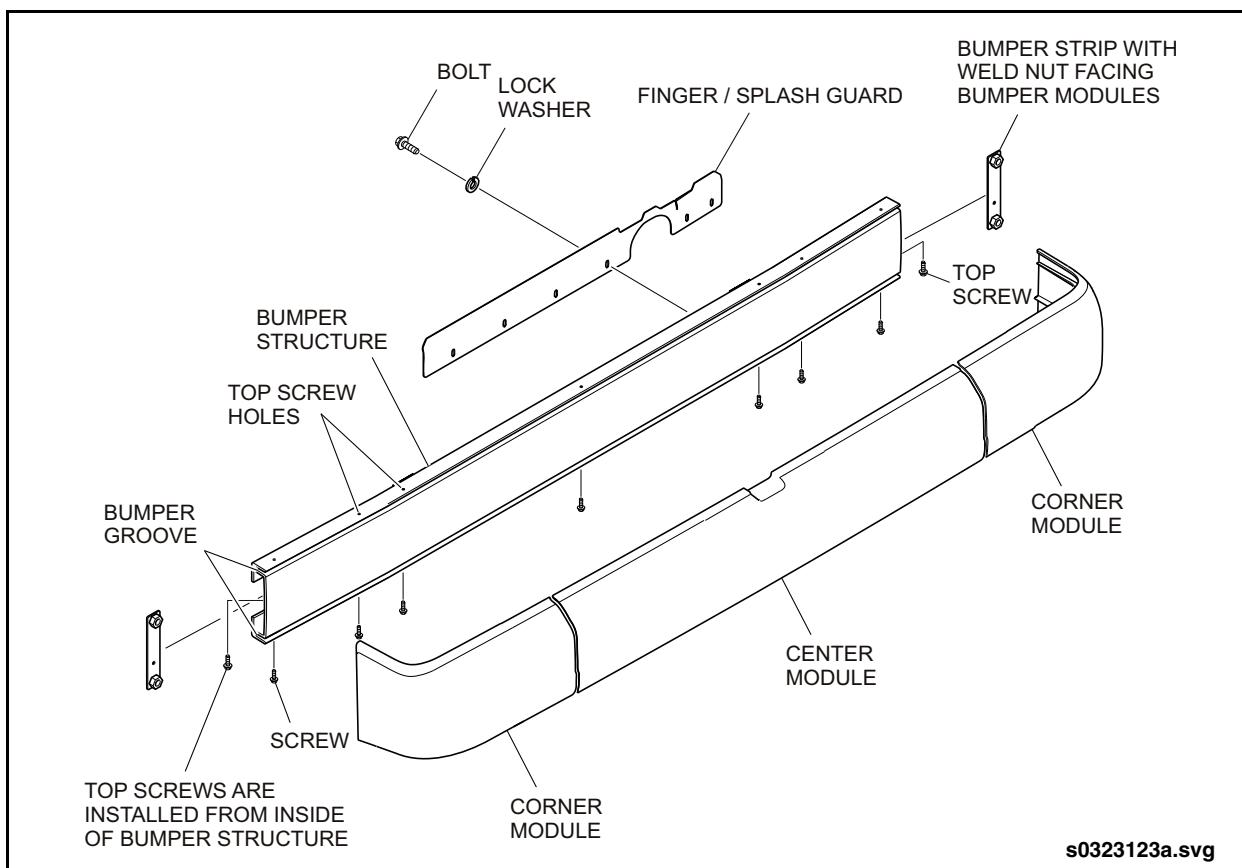

Fig. 13-13: Rear Bumper Assembly
1. Remove the aluminum finger/splash guard from the bumper back structure. See "Fig. 13-13: Rear Bumper Assembly" on page 38.